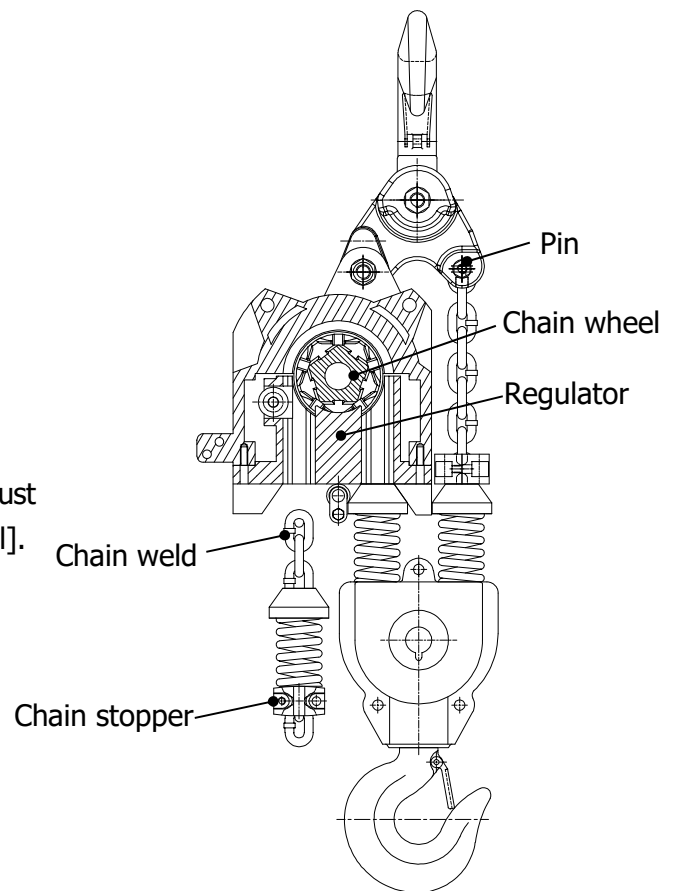

Fig.24
For Double Load chain fall hoists models: YSA-200, YSA-630 (Fig. 24)
The first link must be a standing link [ the link must be perpendicular to the bottom hook chain wheel]. Note the position of the link weld on all standing links – (Fig.24).
- 6) Double Load chain fall Hoists: YSA-200, YSA-630 (Fig.24)
- ① Pass a steel wire through the bottom hook Assembly Hook and attach the end link on the load side of the Load chain onto the steel feed wire.
- ② Ensure that the Load chain is straight, then feed the Load chain through the bottom hook Assembly by pulling the steel feed wire through the Assembly.